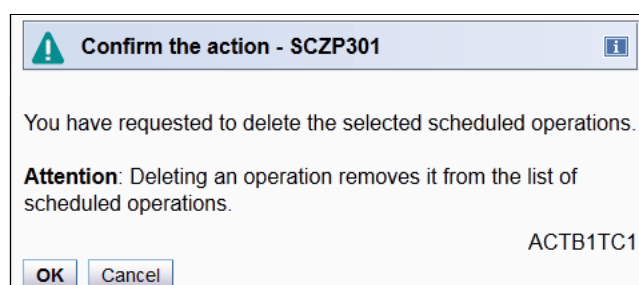

Figure 6-124 Confirm the action to remove selected scheduled operation
3. From the action bar, select **Options** → **Delete**. This displays confirmation message ACTB1TC1 (Figure 6-124).